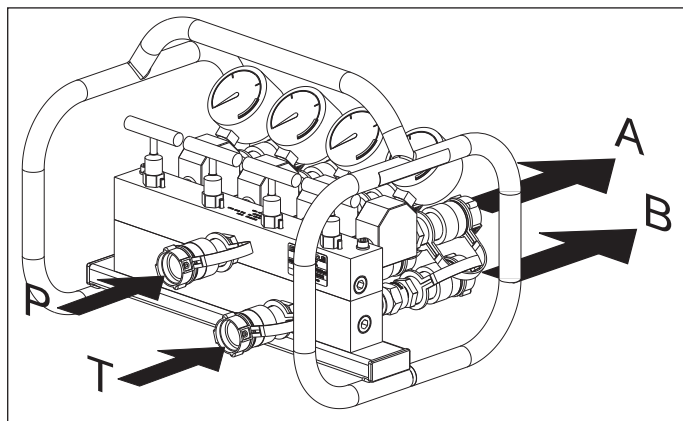

Figure 3, Connections Scheme for the AMGC42 Manifold
1. Connect the hydraulic pump pressure line to the inlet P. Refer to Figure 3